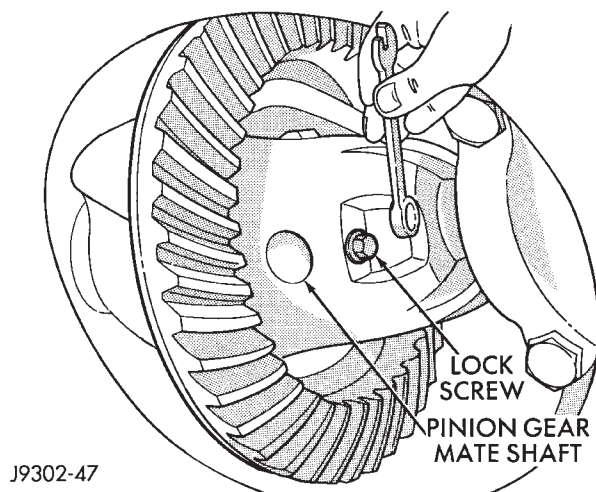

Fig. 56 Mate Shaft Lock Screw
- (2) Remove pinion gear mate shaft.
- (3) Rotate the differential side gears and remove the pinion mate gears and thrust washers (Fig. 56).
- (3) Remove ring gear, if necessary. Ring gear removal is necessary only if the ring gear is to be replaced. The Trac-Lok differential can be serviced with the ring gear installed.
- (4) Remove the pinion gear mate shaft lock screw (Fig. 56).